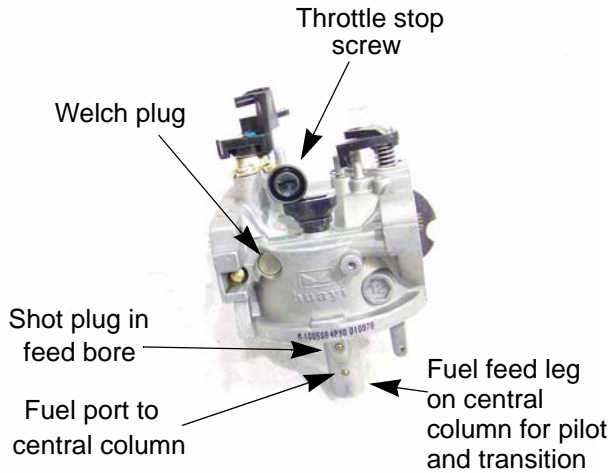

Figure 4.11
7. The throttle stop screw has a large pliable lip around the head of the screw. That lip secures a metering plug for the pilot and transition ports. Remove the screw to reach the plug. See Figure 4.11.